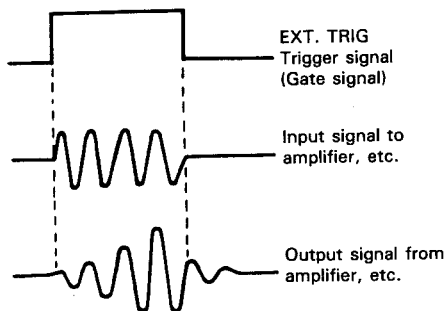

Fig. 8
When the SOURCE selection is in EXT, the input signal at the EXT TRIG INPUT ⑭ jack becomes the trigger. This signal must have a time or frequency relationship to the signal being observed to synchronize the display. External sync is preferred for waveform observation in many applications. For example, Fig. 8 shows that the sweep circuit is driven by the gate signal when the gate signal in the burst signal is applied to the EXT. TRIG INPUT jack.